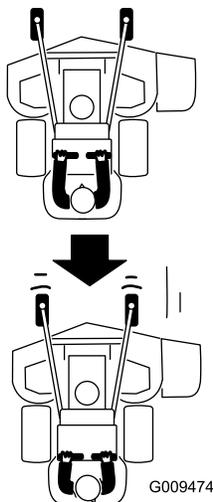

Figure 24
2. Slowly pull the motion-control levers rearward (Figure 24).